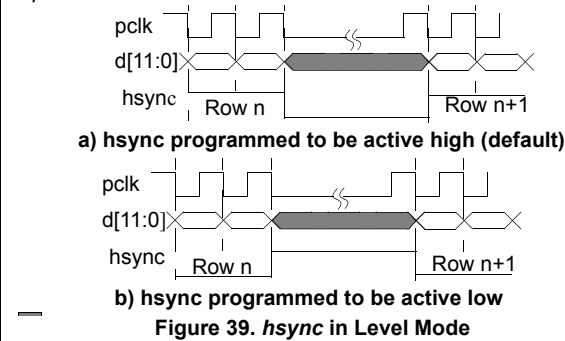

Figure 39. hsync in Level Mode
- Level mode should be used when the pixel clock, *pclk*, is programmed to operate in *free running mode*. In level mode the *hsync* output pin will go to the specified level (high or low) at the start of each row and remain at that level until the last pixel of that row is read out on *d[11:0]* as shown in Figure 39. The *hsync* level is always synchronized to the active edge of *pclk*.